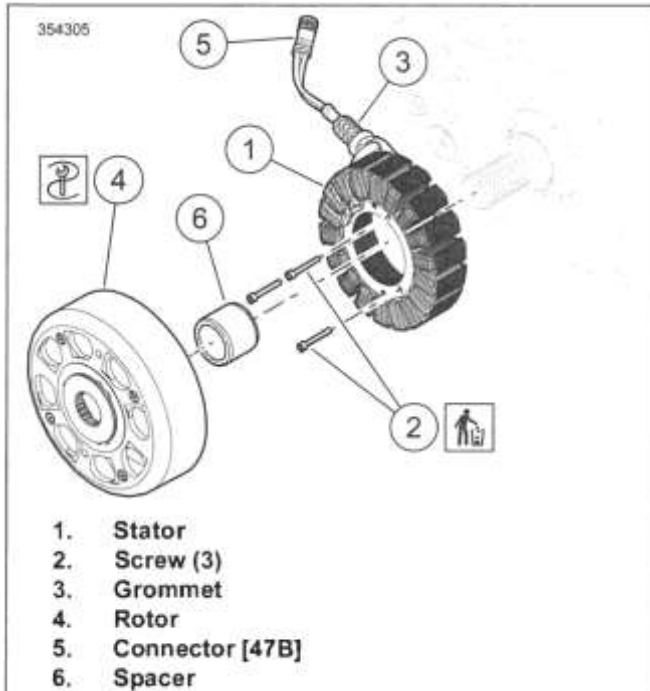
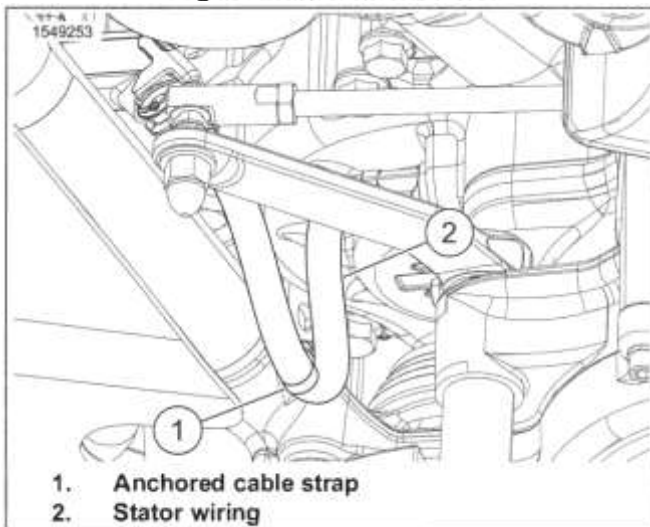

Figure 8-6. Rotor and Stator
Figure 8-7. Stator Wiring
1. See Figure 8-6. regulator.
3. See Figure 8-7. Discard cable strap.
*The rubber molded stator connector (5) is not serviceable.*
4. See Figure 8-6. Discard screws (2).
2. See Figure 8-6. Secure stator to crankcase using new screws (2). Tighten.
3. See Figure 8-7. Secure stator wiring (2) to frame with new cable strap (1). Verify that stator wire does not contact the engine.